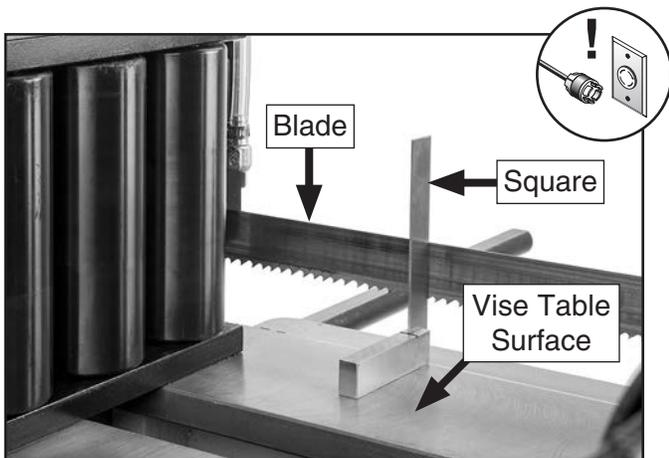

Figure 85. Checking blade-to-table squareness.
5. Place machinist's square on vise table surface and against edge of blade (see **Figure 85**). Check for squareness at different points along length of vise table between blade guides.